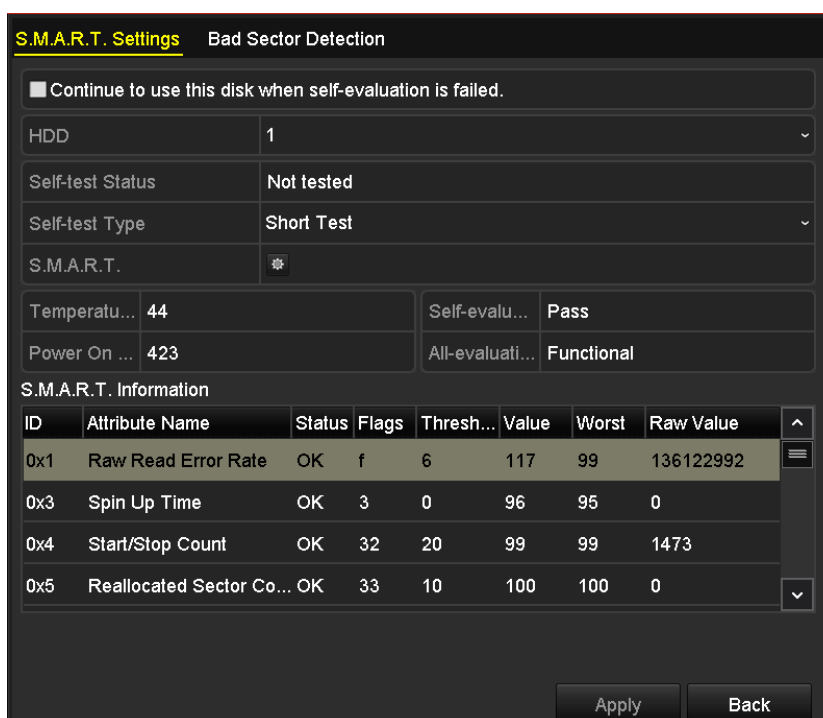

Figure 13. 24 S.M.A.R.T Settings Interface
2. Select the HDD to view its S.M.A.R.T information list, as shown in Figure 13. 24.